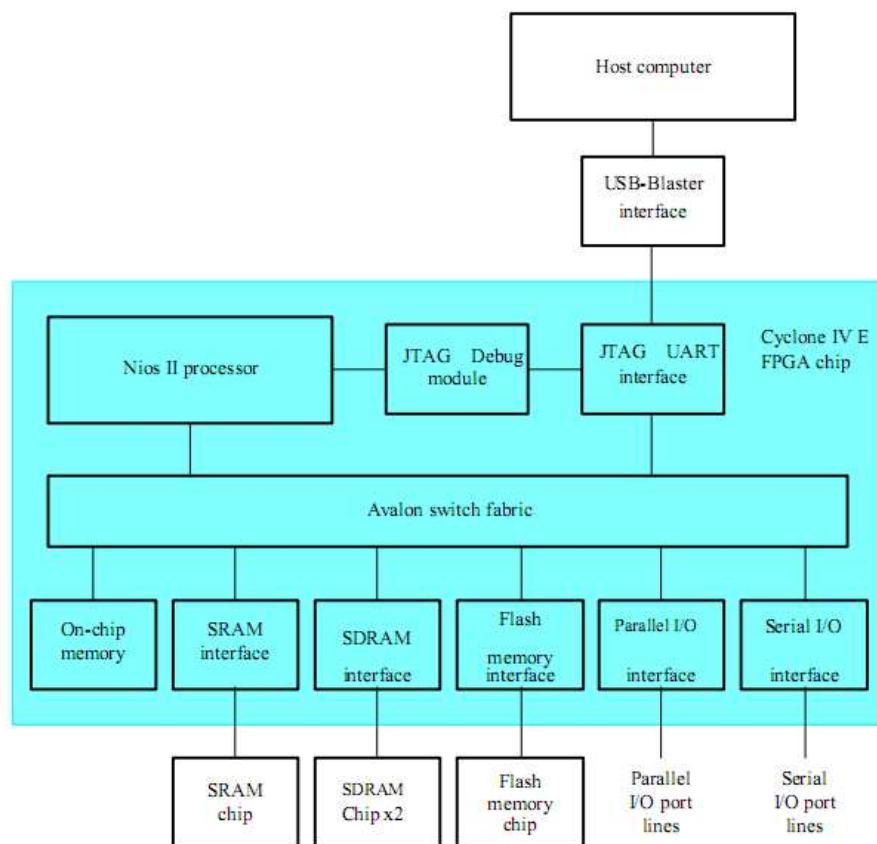
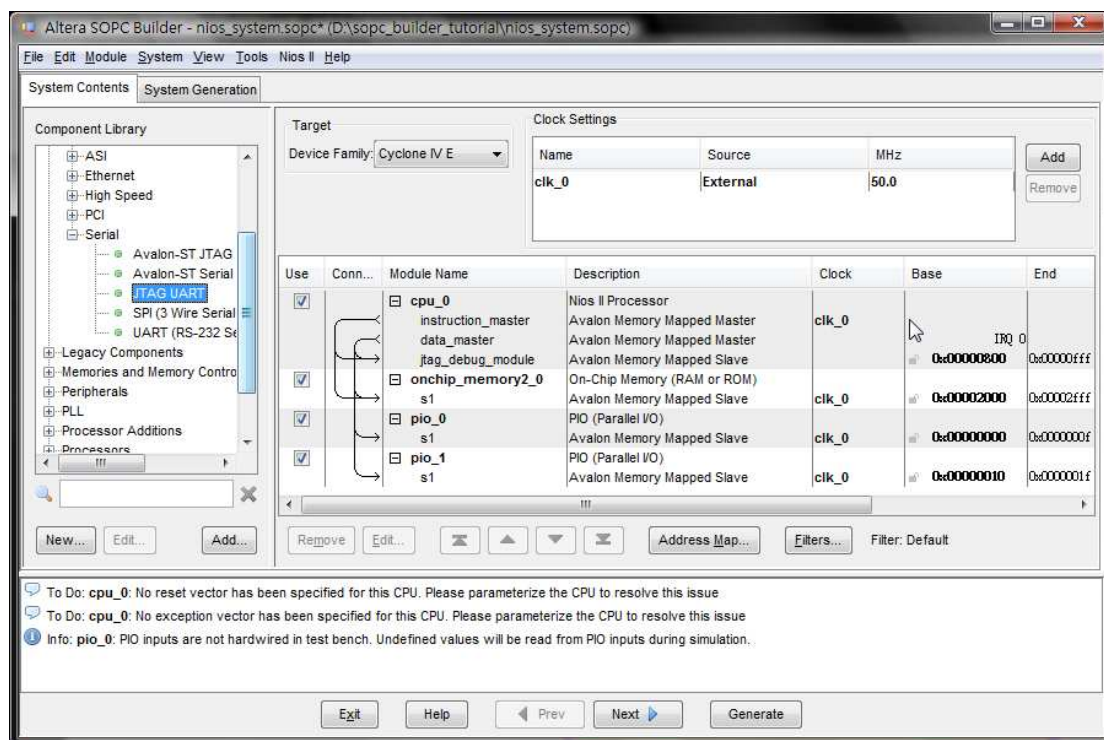

Figure 2 A simple example of a Nios II system.
Figure 13. The complete system.
Our example system is given in Figure 2. The system realizes a trivial task. Eight toggle switches on the DE2-115 board,  $SW_{7-0}$ , are used to turn on or off the eight green LEDs,  $LEDG_{7-0}$ . The switches are connected to the Nios II system by means of a parallel I/O interface configured to act as an input port. The LEDs are driven by the signals from another parallel I/O interface configured to act as an output port. To achieve the desired operation, the eight-bit pattern corresponding to the state of the switches has to be sent to the output port to activate the LEDs. This will be done by having the Nios II processor execute a program stored in the on-chip memory. Continuous operation is required, such that as the switches are toggled the lights change accordingly.
We will use the SOPC Builder to design the hardware depicted in Figure 2. Next, we will assign the Cyclone IV E pins to realize the connections between the parallel interfaces and the switches and LEDs which act as I/O devices. Then, we will configure the FPGA to implement the designed system. Finally, we will use the software tool called the Nios II Monitor Program to assemble, download and execute a Nios II program that performs the desired task.
The SOPC Builder is a tool used in conjunction with the Quartus II CAD software. It allows the user to easily create a system based on the Nios II processor, by simply selecting the desired functional units and specifying their parameters. To implement the system in Figure 2, we have to instantiate the following functional units:
10. The complete system is depicted in Figure 13. Note that the SOPC Builder automatically chooses names for the various components. The names are not necessarily descriptive enough to be easily associated with the target design, but they can be changed. In Figure 2, we use the names Switches and LEDs for the parallel input and output interfaces, respectively. These names can be used in the implemented system. Right-click on the pio\_0 name and then select Rename. Change the name to Switches. Similarly, change pio\_1 to LEDs.